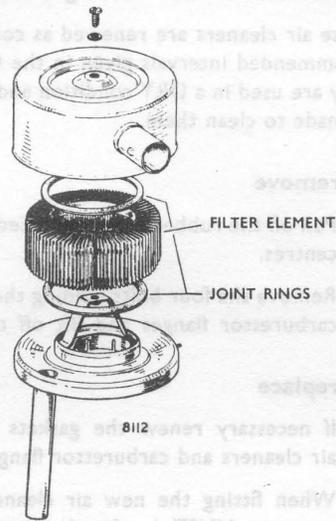

Fig. 1. Air cleaner—circular element type
**AIR CLEANER USED WITH ZENITH IV CARBURETTOR — See Fig. 1**